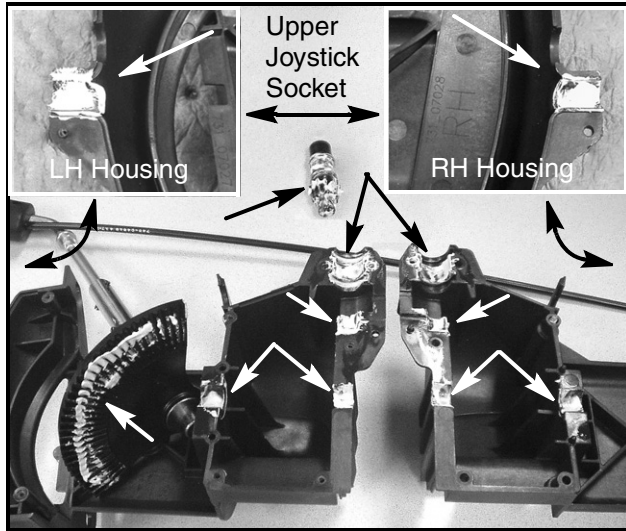

FIGURE 9
17. Apply a liberal amount of white lithium grease to both the new LH housing and the new RH housing at the areas shown. See Figure 9.
18. Apply a liberal amount of white lithium grease to the input shaft and to the 89 tooth bevel gear. See Figure 9.